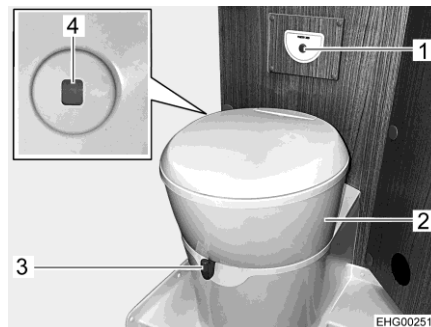

Fig. 104 Toilet
The toilet bowl can be rotated into the required position. In order to do this, grab the toilet's upper part (Fig. 104,2) with both hands and rotate it.
The operating unit with the flush button (Fig. 104,1) is installed near to the toilet bowl.
The colour of the level indicator (Fig. 104,4) changes from green to red whenever the sewage tank has to be emptied.
- Before flushing open the sliding trap of the toilet. To do this, push the slide lever (Fig. 104,3) in an anticlockwise direction.
- For flushing, press the blue flush button (Fig. 104,1).